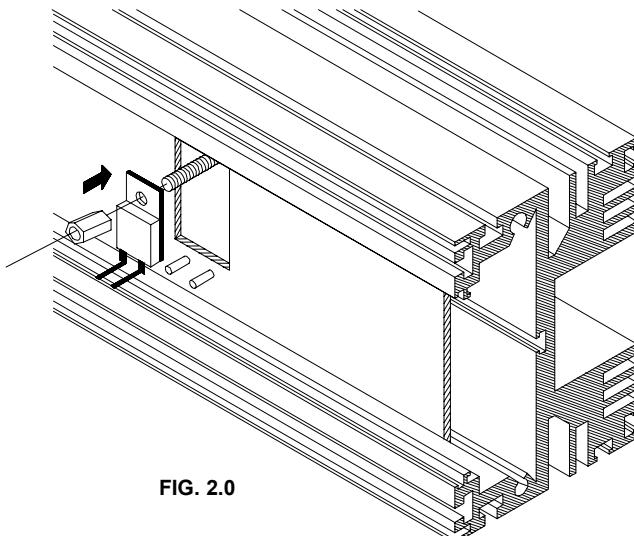

FIG. 2.0
- ☞ **Note :** If the optional thermal protection is used, a hexagonal bolt should be slit into the mounting slot, and into the hole in the P.C.B. Then the THERMIC may be mounted on the heat sink and its terminals may be connected to the positions TS (see Fig. 2.0).